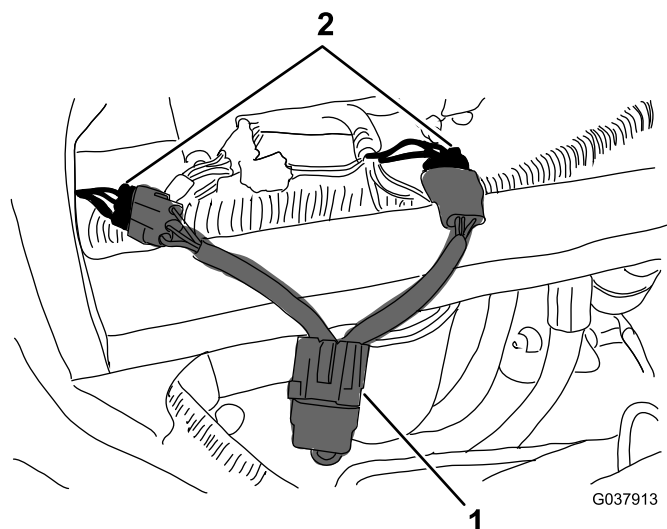

Figure 2
7. Install the in-line fuse between the connectors (Figure 2).